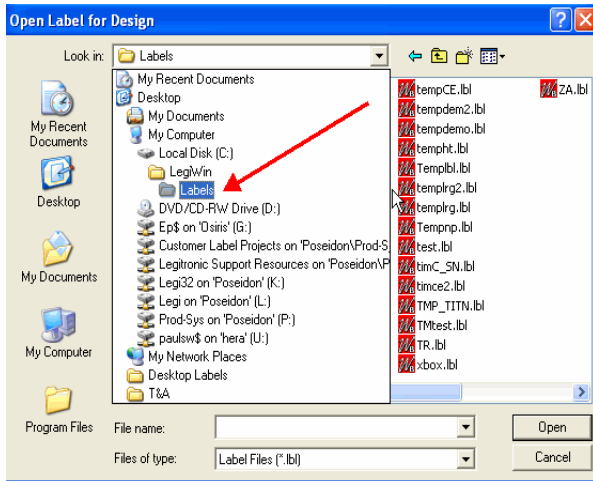

Figure 4-10a
4.3.2. Browse to and highlight the label you want to import and click **[Open]**. (Figure 4-10a, b)